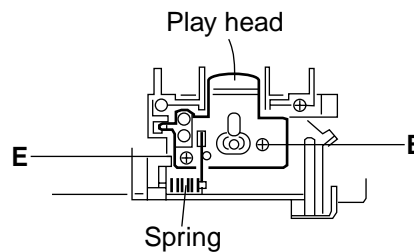

Fig.4
■ Removing the play head (see Fig.4)